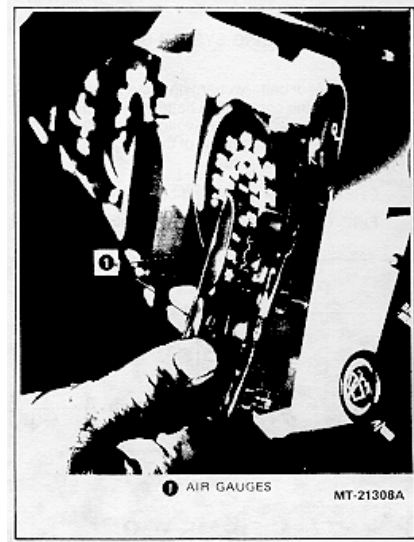

Figure 23 - Removing Air Pressure Gauges
3. Remove gauge mounting screws and demount gauges from instrument cluster (Figure 23)